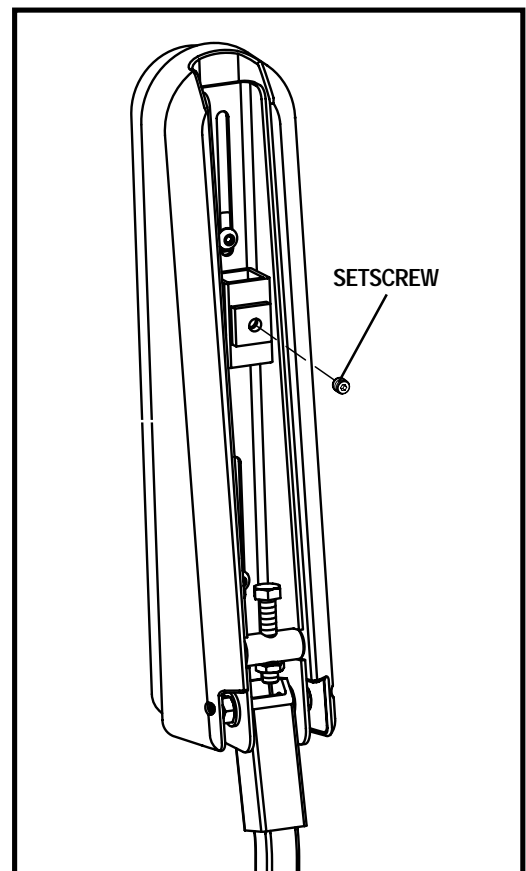

Figure 12. Controller Installation (Underside of Armrest)
2. Loosen the setscrew on the underside of the armrest. See figure 12.